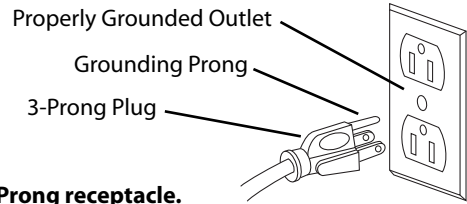

Figure 4 – 3-Prong receptacle.
- This grinder is equipped with an approved 3-conductor cord rated at 300V and a 3-prong, grounding type plug (See Figure 4) for your protection against shock hazards.
- Grounding plug should be plugged directly into a properly installed and grounded 3-prong grounding-type receptacle (See Figure 4).